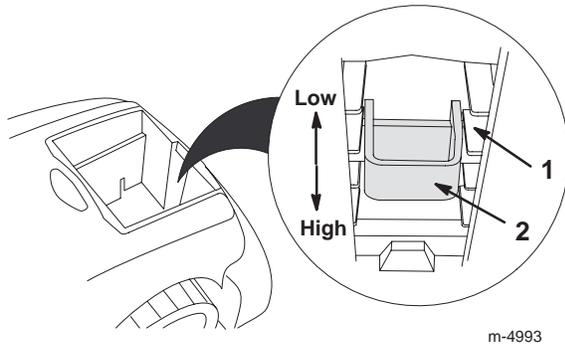

Figure 18
2. Pull the flexible handle (located inside the battery pack) out (Fig. 18).
3. Move the flexible handle into the desired slot to change the rear cutting height (Fig. 18).